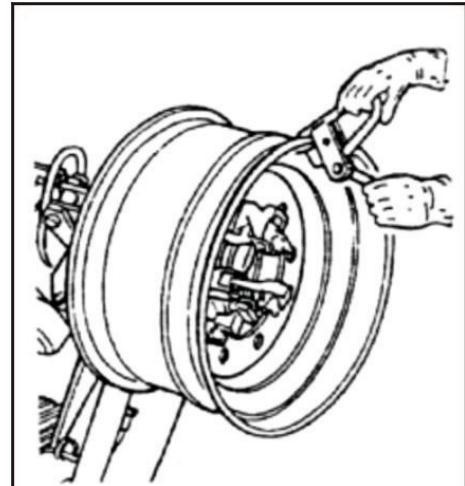

Fig 18
- 3) Clamp the pliers at the top position of the external edge of the rim. (Fig18)